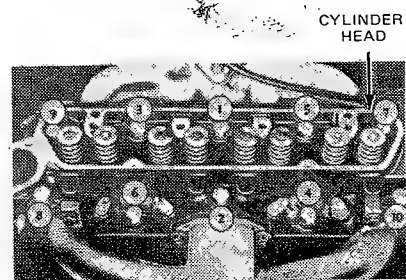

FIG. 29 Cylinder Head Bolt Tightening Sequence
2. Position the cylinder head, remove pilot studs and install the cylinder head bolts. Tighten the bolts down evenly in sequence (Figure 29) and in three steps to specifications.